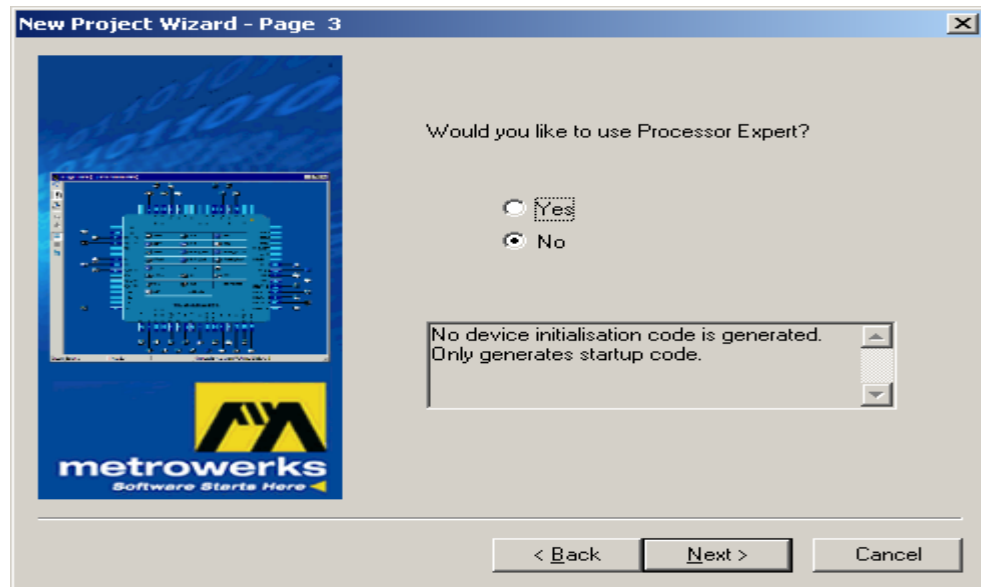

Figure 5
g. **Figure 5**- Select **No** for processor expert